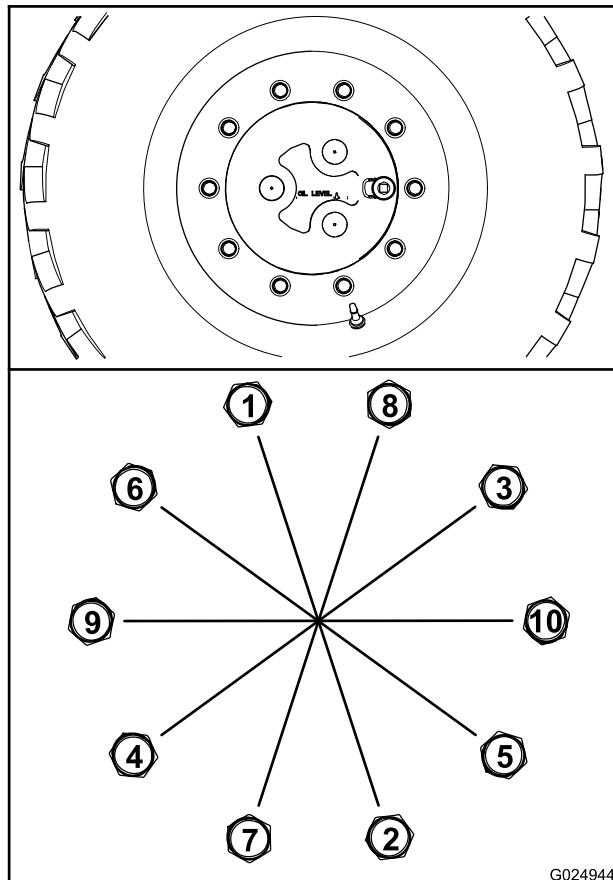

Figure 83
- B. Torque all the nuts to 200 N·m (150 ft-lb) in the sequence shown in Figure 83.
- C. Torque all the nuts to 300 N·m (225 ft-lb) in the sequence shown in Figure 83.
- A. Torque the all wheel nuts to 100 N·m (75 ft-lb) in the sequence shown in Figure 83.